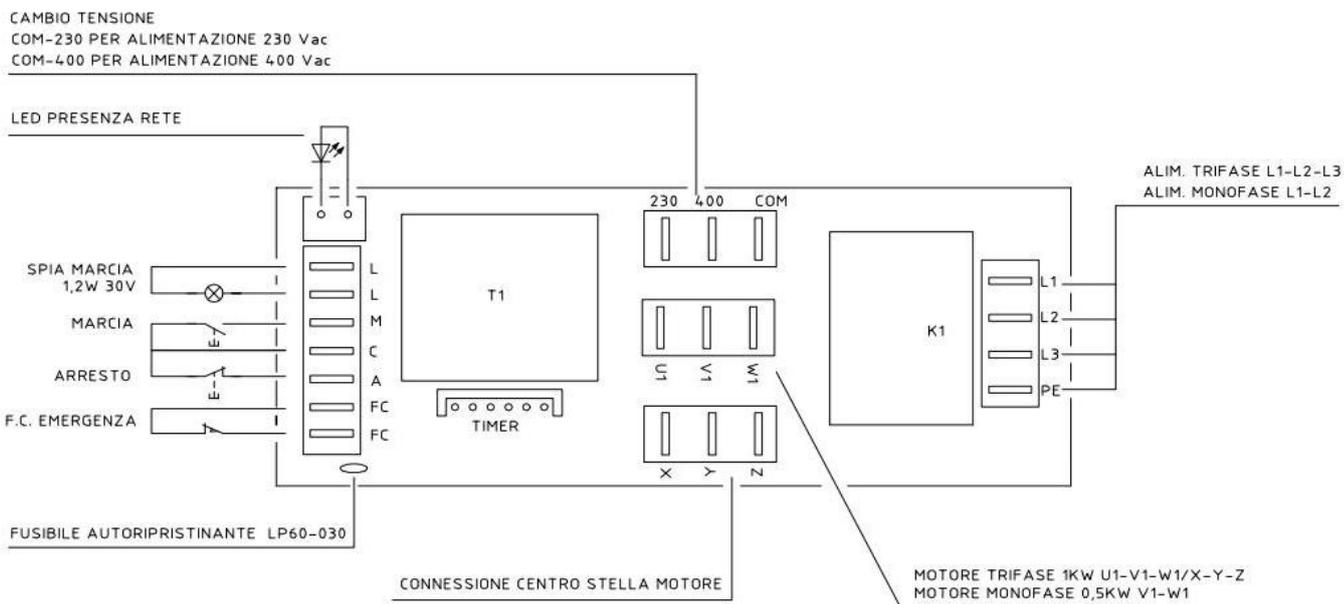

Figure 12 - Single/Three Phase 230V/400V wiring diagram
2. (Fig. 12), loosen the knob (1), raise (a) the sharpening device (2) and rotate by 180° (b). Then let it reach the end of the run (c) so that the blade is between the two wheels. Lock the knob.